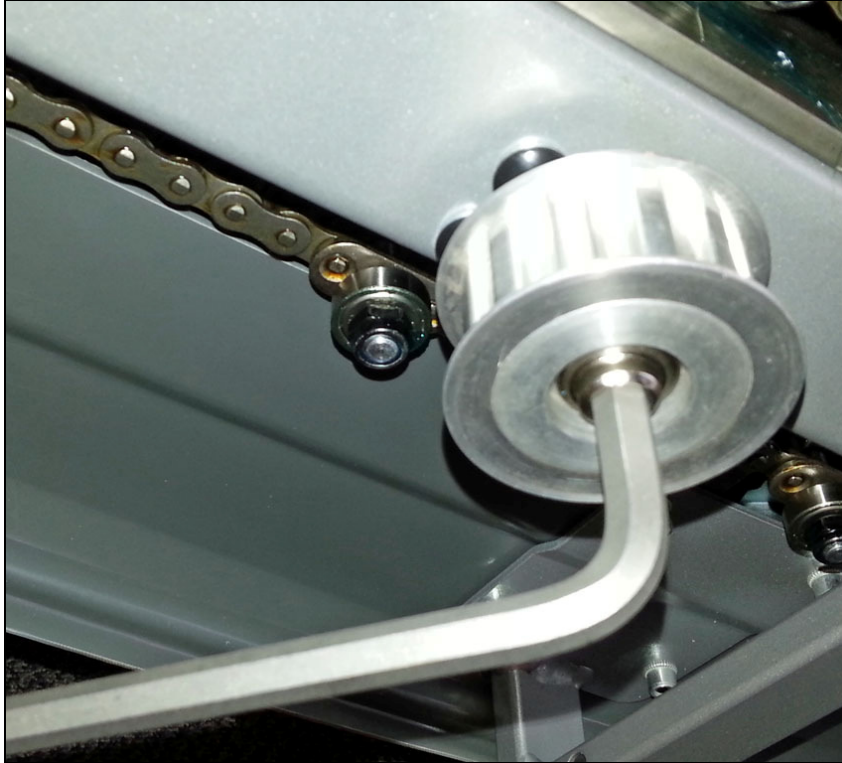

Fig. 10
11. Put pulleys back on the shaft (Fig. 10)